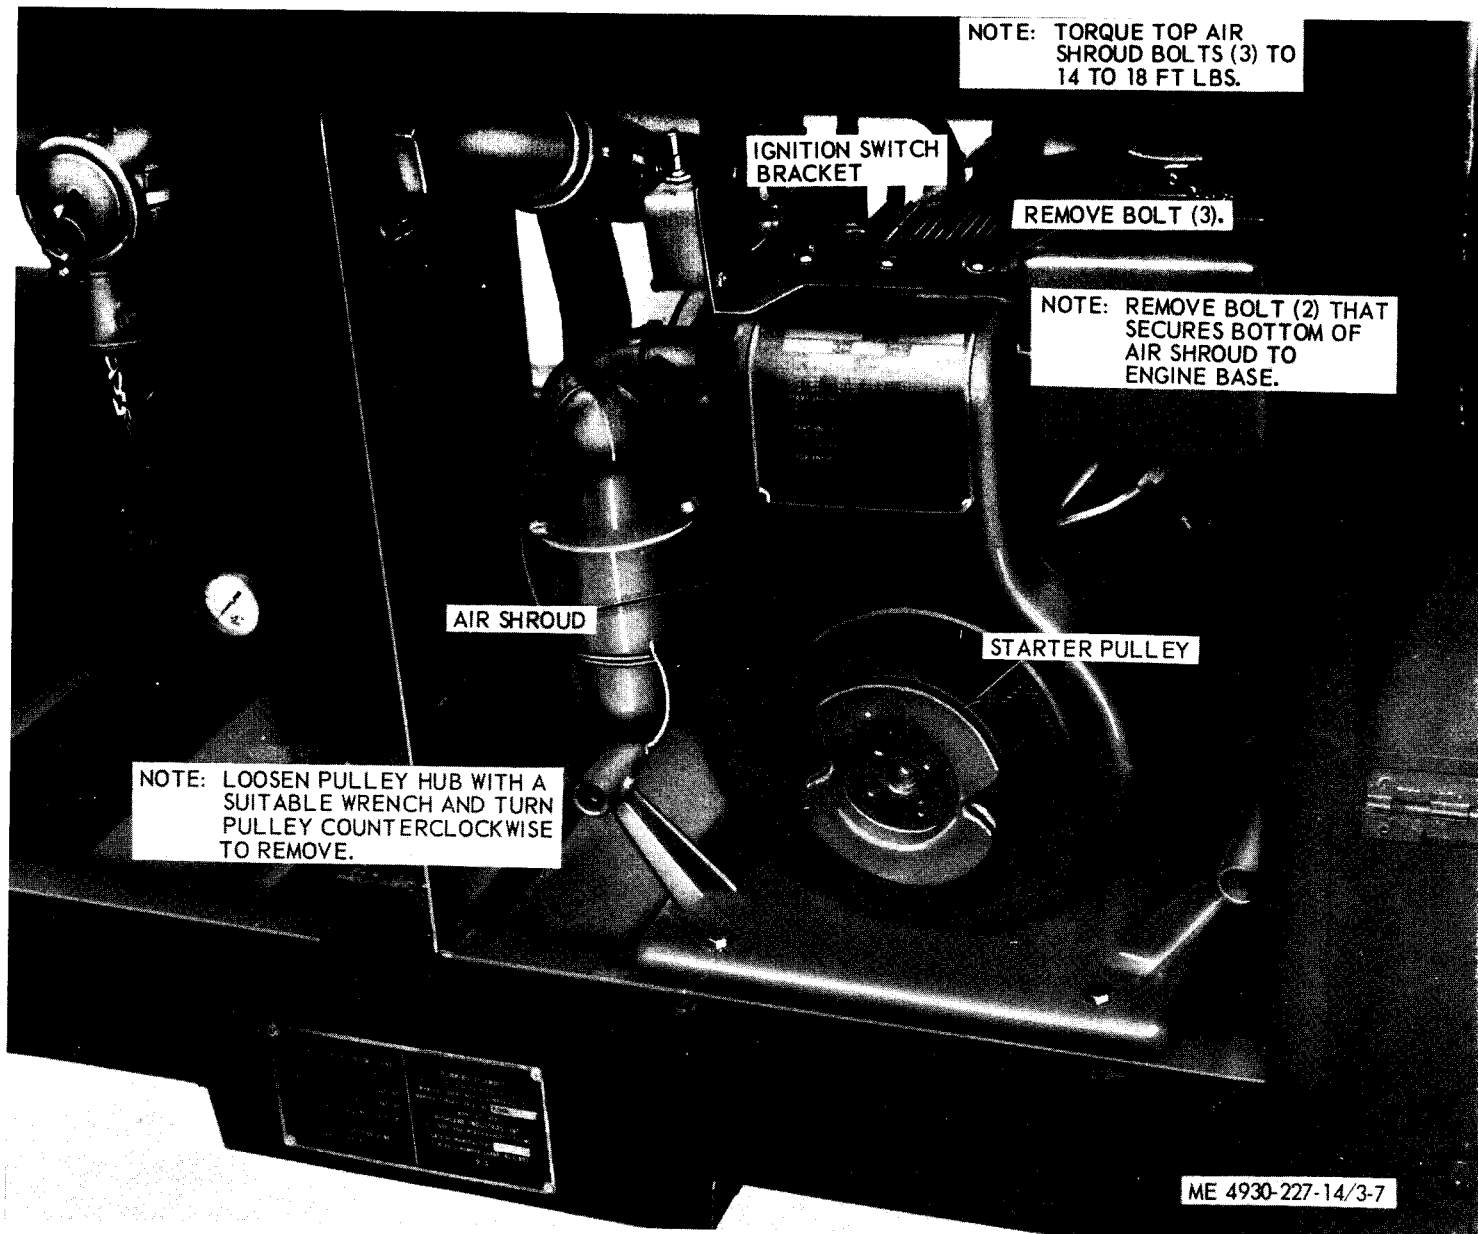

Figure 3-7. Starter pulley, air shroud, and ignition switch bracket, removal and installation.
a. Removal. Refer to figure 3-7 and remove the starter pulley.
(1) Clean all parts with an approved cleaning solvent and dry thoroughly.
(2) Inspect all parts for cracks, breaks, damaged threads, and other defects. Replace a damaged part.
c. Installation. Refer to figure 3-7 and install the starter pulley.
(1) Remove the starter pulley (para 3-19).
(2) Refer to figure 3-7 and remove the air shroud.
(1) Refer to figure 3-7 and install the air shroud.
(2) Install the starter pulley (para 3-19).